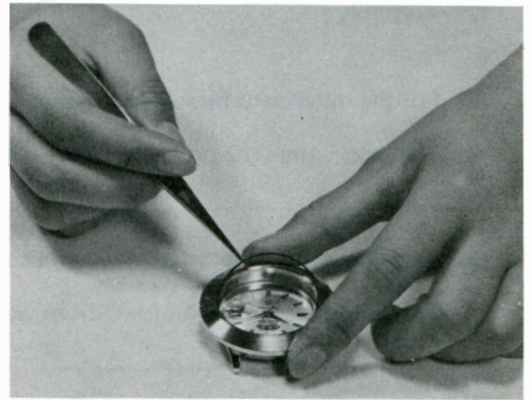

Fig. 6
- b. Place the O-Ring between the crystal glass and the lower endpiece and insert with the tips of tweezers evenly along the rim carefully (Fig. 6).